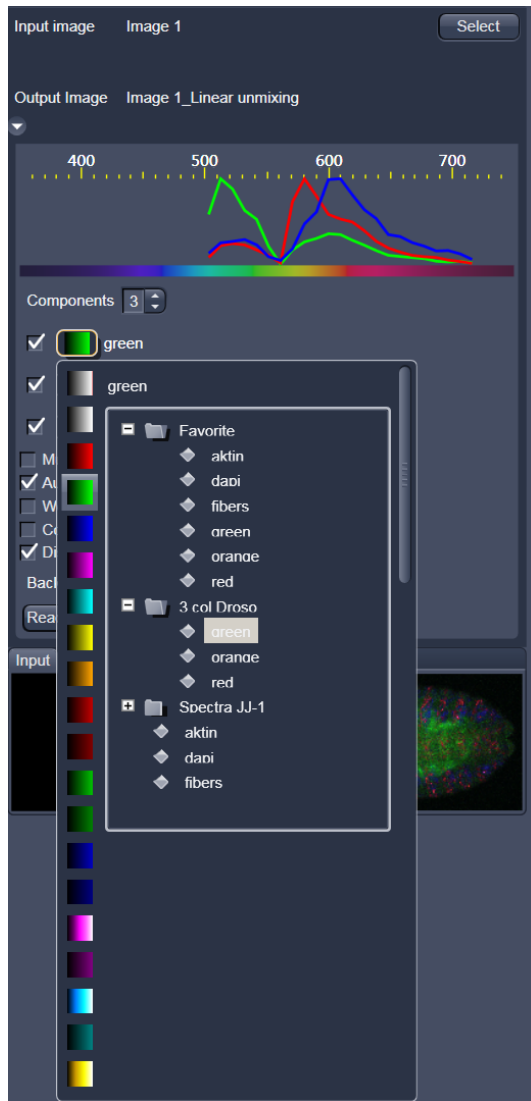

Fig. 391 Spectra and LUT assignment
- Select the sample-specific fluorescence dye reference spectra from the **Spectra Database** (Fig. 391).